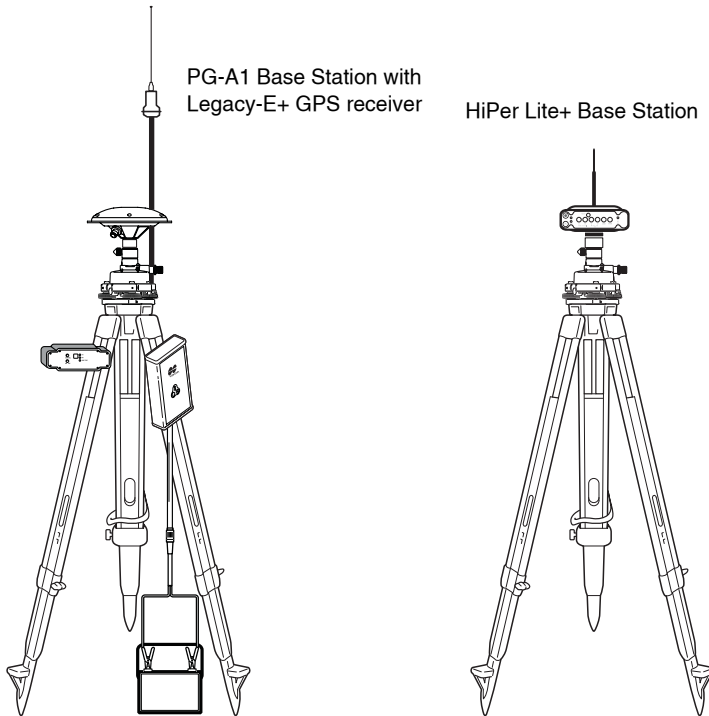

Figure 4-2. Base Station Setup
Figure 4-2 on page 4-4 shows a completed Base Station setup.
Step 2: attach additional components to the tripod (Figure 4-2).